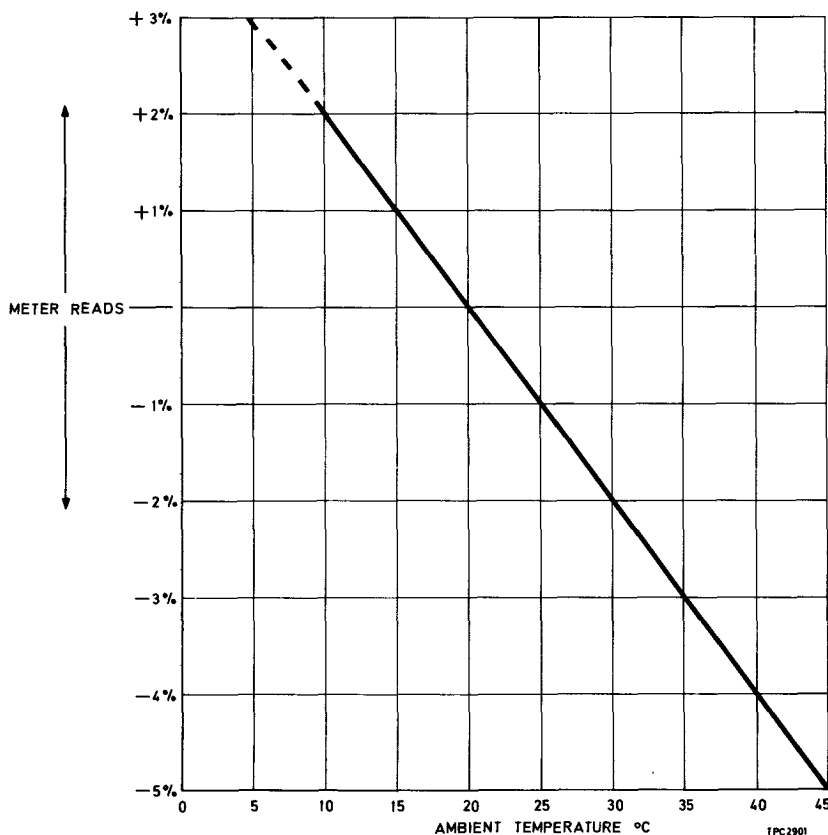

Fig. 3 Temperature correction chart
Temperature correction (Fig. 3)
10. Wattmeters CT418 and CT419 are calibrated in such a manner that optimum accuracy is obtained when the ambient temperature is 20°C. The typical temperature/accuracy curve, Fig. 3, may be used to obtain greater accuracy at other ambient temperatures. Protracted power measurements will cause air-temperature increase within the instrument, leading to long-term drift. All measurements should, therefore, be made as rapidly as possible. For greater accuracy, time should be allowed between measurements for the power meter to revert to ambient temperature as described in para. 9.